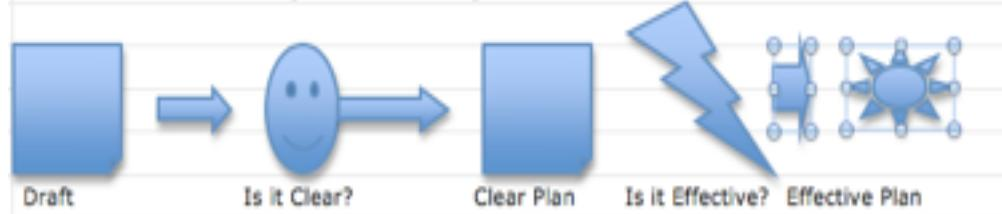

Figure 2 C. The planning 2 stages of quality control: 1. Clear?, 2. Right?
Figure 2 A. when reviewing a planning document using a few people, the team's effectiveness is limited to finding about 30% of the Major Defects actually on the page. But that means if they find 30 Majors there are about 100 Majors total. So fixing the 30 found is not much use. We have to deal with all 100 somehow.
*Figure 2 B. Planning documents can be measured for conformance to your standards. If even a sample of a plan says that defects exceed the Exit level, they cannot be allowed downstream. That would do more damage than good. This 'planning process Exit discipline' will motivate planners to learn, and follow, planning standards first time around.*
Figure 2 D. The Plan Quality Control process. If the plan has a low violation of planning rules, it can be economically released 'downstream'. If not, it pays off to reject it, and get a version that can be safely released.